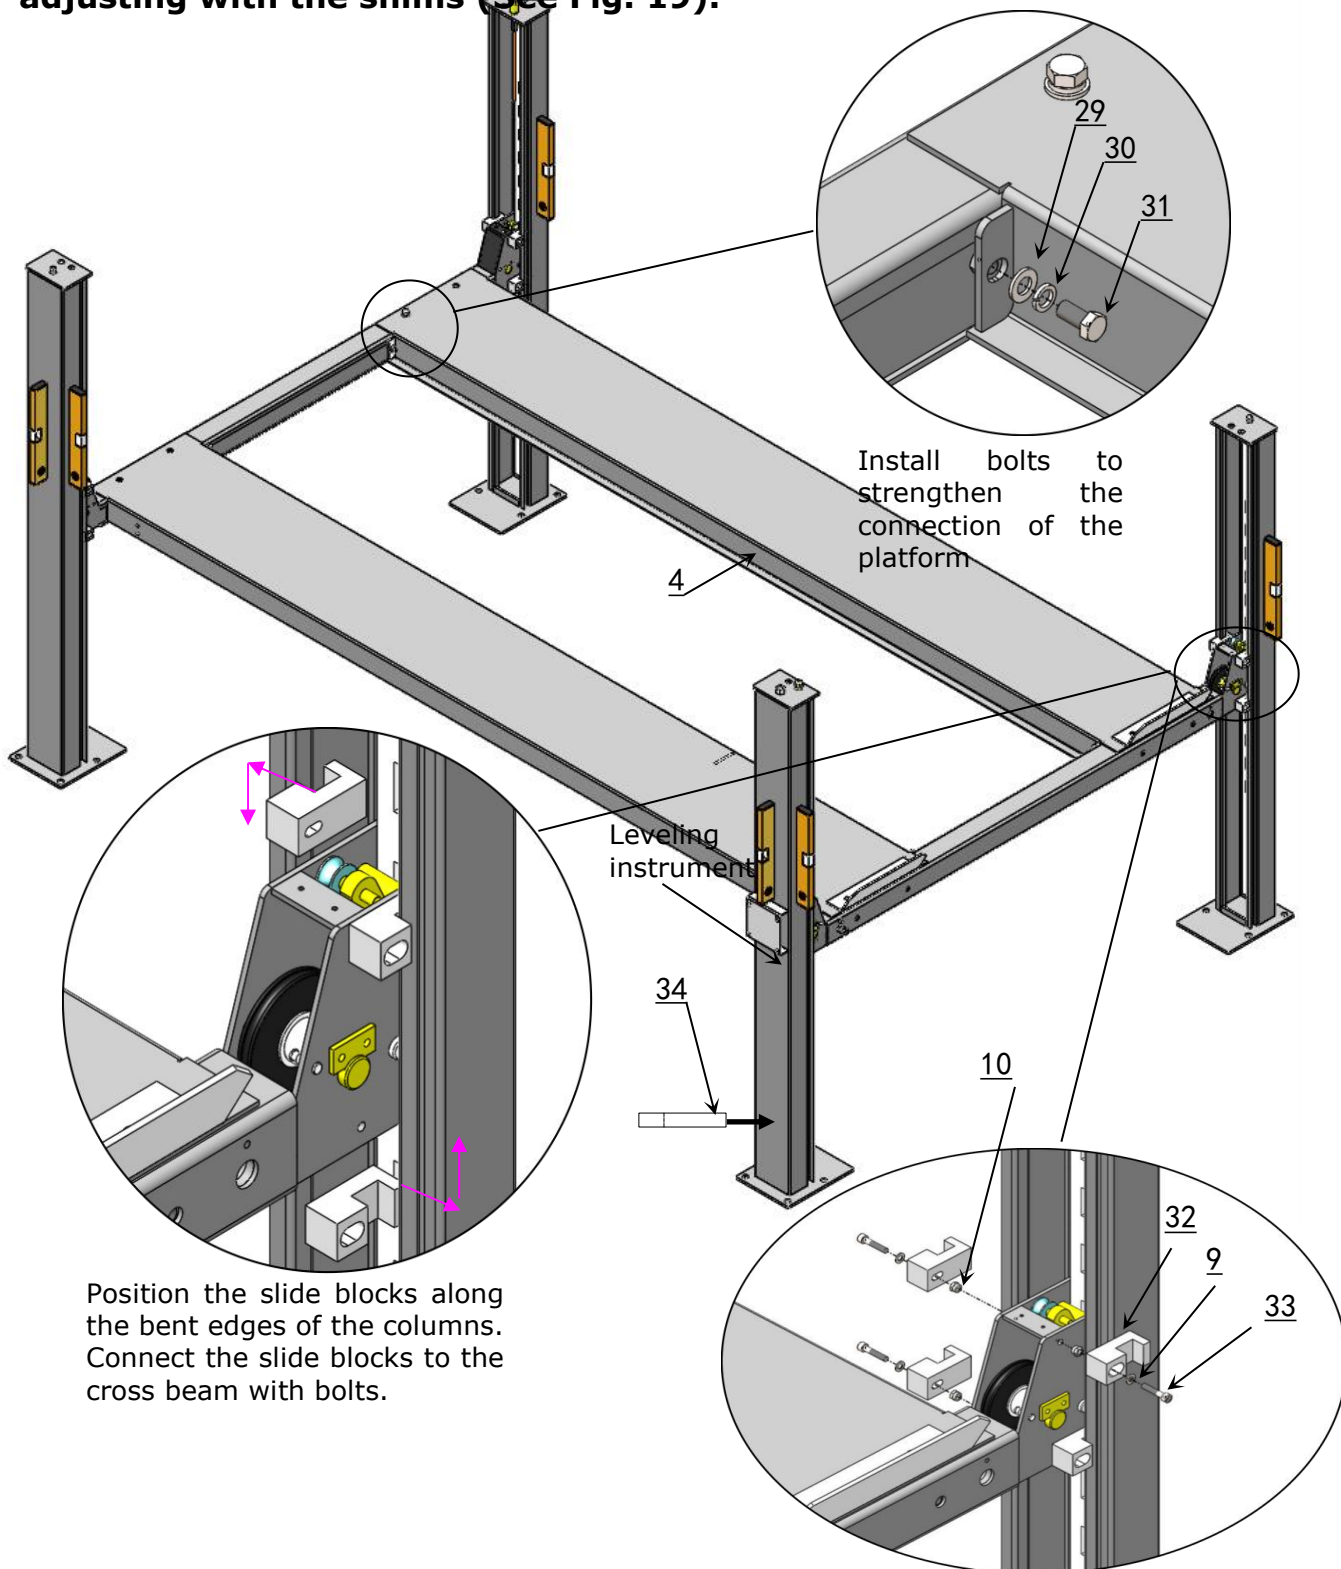

Fig. 19
G. Install offside platform and limit block, then install the bolts for the platform strengthen plate, check the plumbness of columns with level and adjusting with the shims (See Fig. 19).